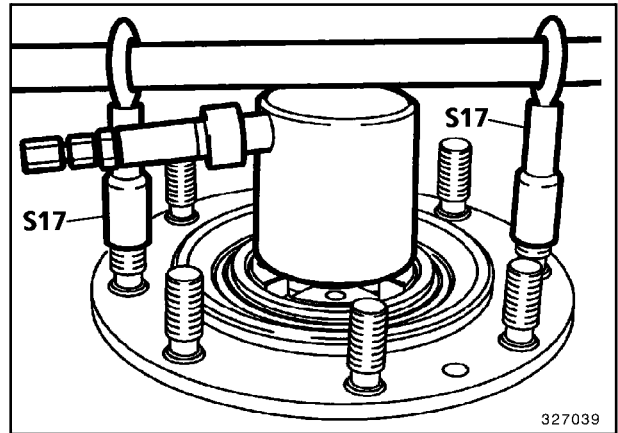

Fig. 3
- Unlock snap ring (117), push carrier (118) out of ring gear (119).
- Close hole in axle tube (101) with suitable washer and pull off hub (113) with suitable extractor.
Recommended: Extract hub (113) with conventional hydraulic press (Lukas). Refer to Fig. 3.